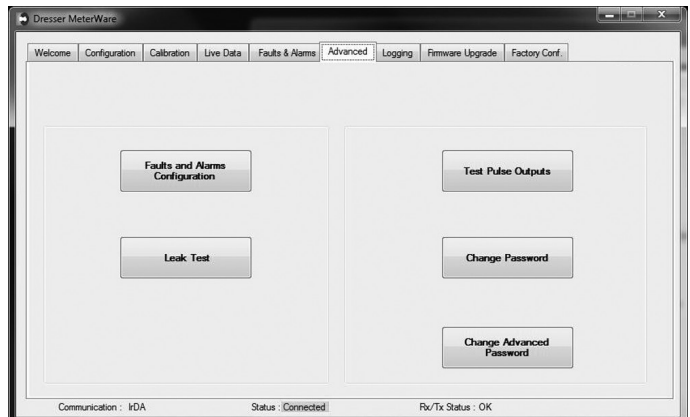

Figure 7.11 - “Advanced” screen of the Dresser MeterWare software
1. The Leak Test feature is also accessible through the “Advanced” screen of the Dresser MeterWare software as shown in Figure 7.11. This method requires the user to connect to the meter using the IR communication cable.